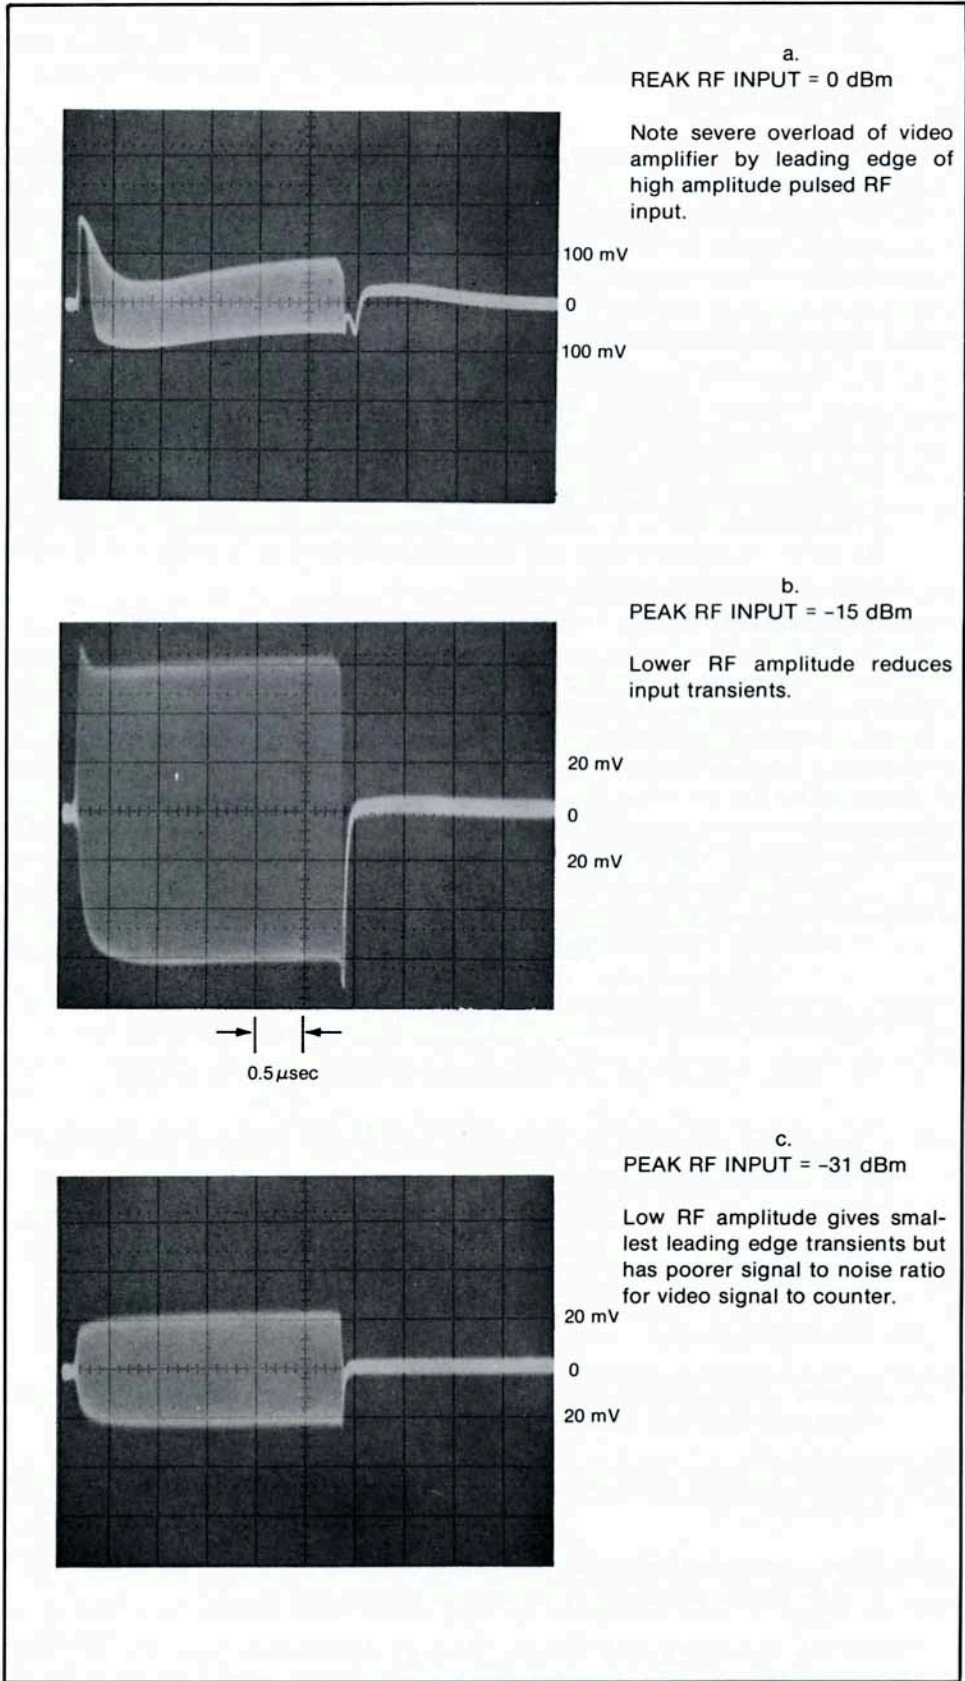

FIGURE V-1 AUX OUT (VIDEO) from the H12-5255A displayed on a 100 MHz oscilloscope with sweep of .5 μsec/division. Signal input of 3.46 GHz.
- RF input level is more critical when measuring pulsed RF than when measuring CW signals. A high amplitude RF pulsed signal gives a better signal to noise ratio at the video output of the plug-in but it also introduces a bigger step at the beginning and end of the pulse as shown in FIG V-1. This can degrade measurement accuracy. Pulse modulators can also introduce spurious frequencies at the beginning and end of pulses and this also causes measurement problems even when signal levels are set correctly.